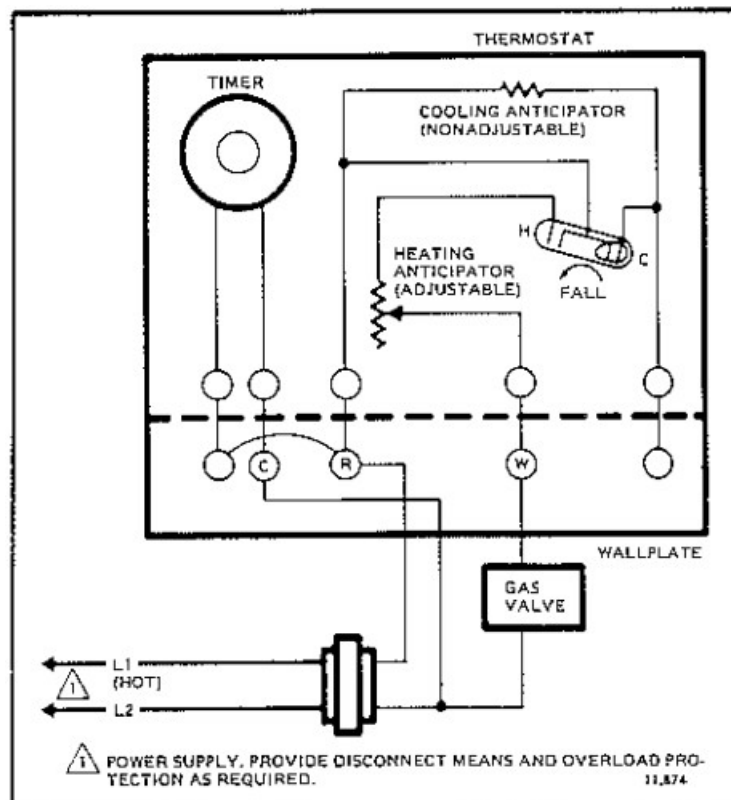

Fig. 11—Hookup showing a typical 24 V, gas heating control system.
- Connect wires to R, W, and C terminals. Firmly tighten screws. The timer is powered by the system's low voltage transformer. NOTE: An unmarked fourth terminal is provided for 3-wire (series 20) primary controls (Fig. 11).